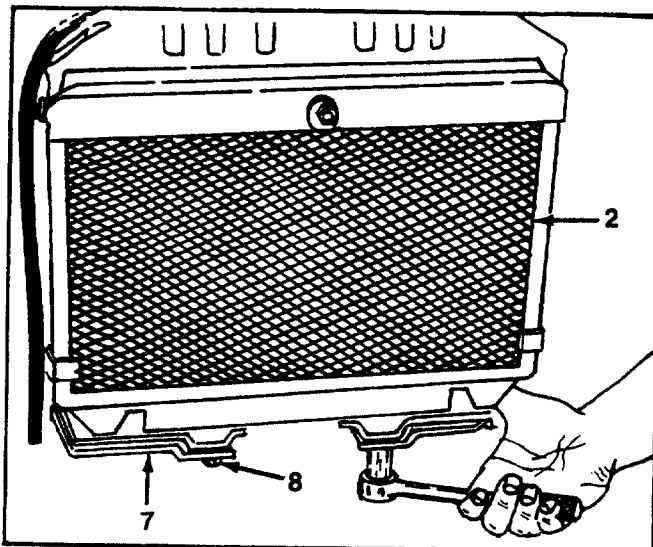

FIGURE 5.
6. Remove the two 17mm bolt and lock washers from the bottom of radiator and engine cradle. See figure 5.